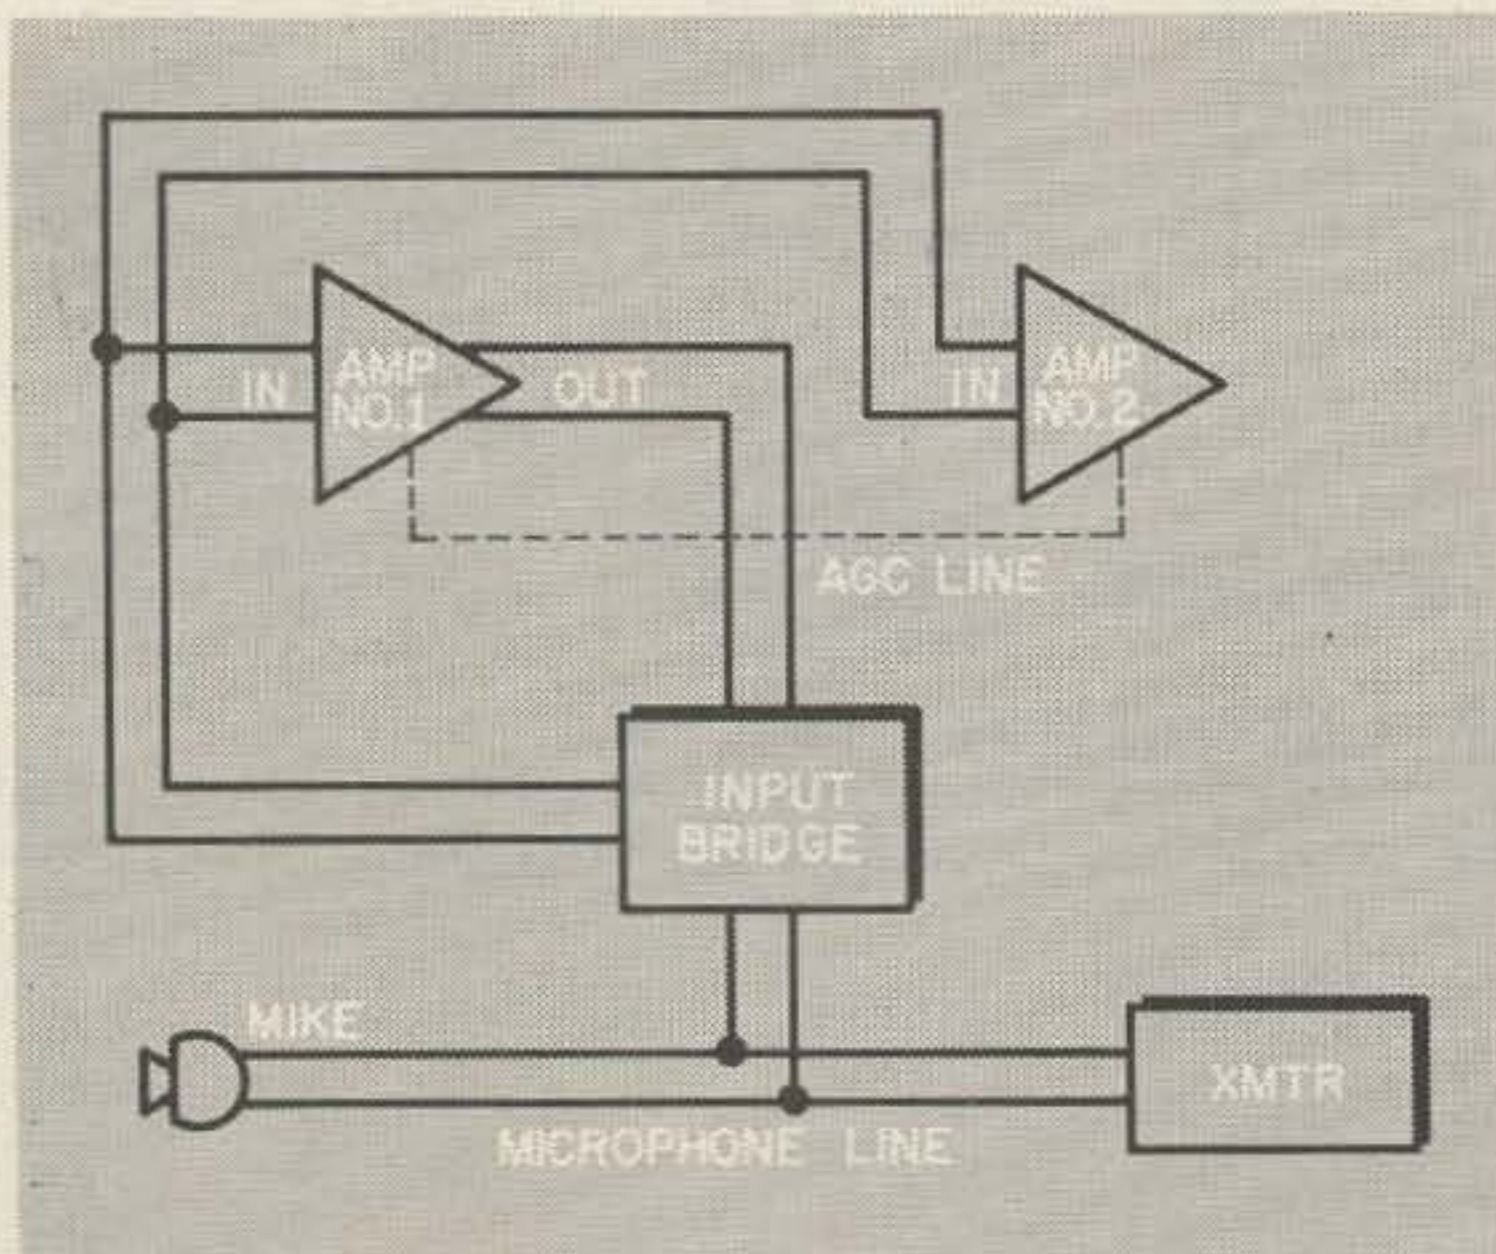

Fig. 1. Block diagram of the Audio Booster and its tie-in to your audio system. Operation is explained in the text.
The quickest way to analyze circuit operation is to take a look at the block diagram, Fig. 1, and the input-bridge simplified schematic, Fig. 2, while reading the following paragraphs.
Looking at Fig. 1, you'll see that a signal coming from the microphone passes through the input-bridge to the input sides of both amplifiers. Amplifier No. 1 boosts the signal some 40 db, then rectifies it to produce a positive control voltage. This control voltage is applied to Amplifier No. 2 to adjust its gain. With a strong signal, representing an audio peak, the gain of Amplifier No. 2 can be reduced to zero. With a weak signal, however, Amplifier No. 2 can produce some 50 db gain.
**T**HE production of a new and strange kind of variable capacitor recently came to the attention of the writer. This capacitor takes the form of a semiconductor, is about the size of a germanium diode, and is available in sizes from 7 to 100 mmfd. The strange thing about this little gadget is that the capacity is a function of a dc bias voltage impressed across it. The manufacturer, Pacific Semiconductors Inc., Culver City, California, use a standard voltage of four volts as the 100% capacity rating point. It may be seen from the curve in Fig. 1 that at zero voltage the capacity is about 250% and at 100 volts the capacity has dropped to 20% of the 4 volt value. *Caution:* A reverse polarity voltage should never be used and any superimposed ac peak must not go on the other side of zero.
← Fig. 1 Courtesy of Pacific Semiconductors, Inc., 10451 West Jefferson Boulevard, Culver City, California Fig. 2 ↓